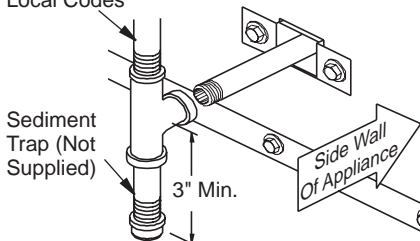

Figure 43 - Sediment Trap
Route a 1/2" NPT black iron gas line towards appliance coming in from the left. It is recommended to route pipe between stand of firebox and surround of fireplace (see Figure 43).
1. Install a sediment trap between incoming gas line and gas control valve (see Figure 43). The sediment trap should extend down center of pipe. Refer to your local codes.